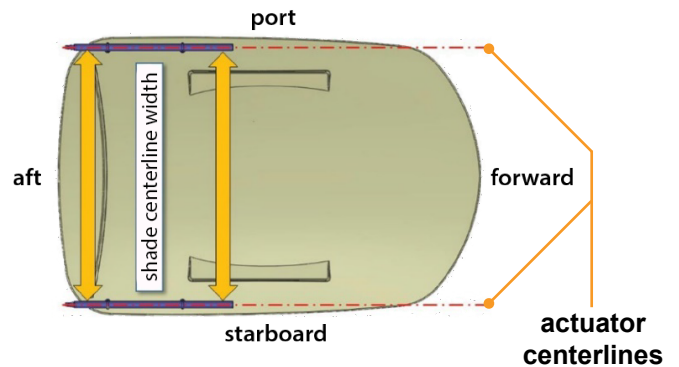

Fig.7
4. Measure from port actuator centerline to starboard actuator centerline at the forward and aft sections (Fig.7) to make sure the centerline width is accurate. Refer to shade centerline width dimension located on shade specification drawing.